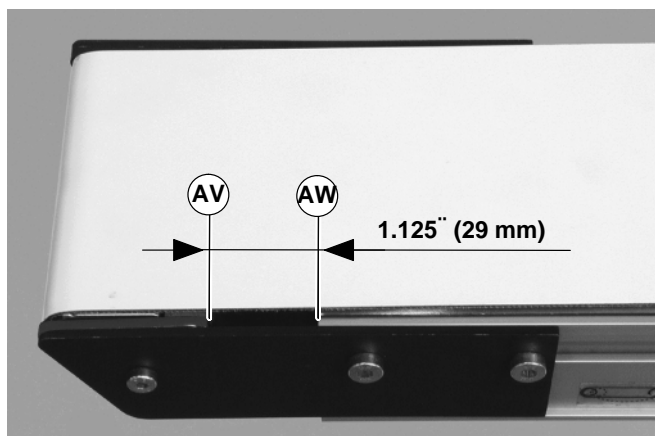

Figure 28
2. Adjust head plate assembly so the edge of the axle support plate (AV of Figure 28) is separated from the end of the conveyor (AW) by 29 mm. Replace belt if proper tensioning can not be obtained within a distance of 38 mm. See **NOTE**.